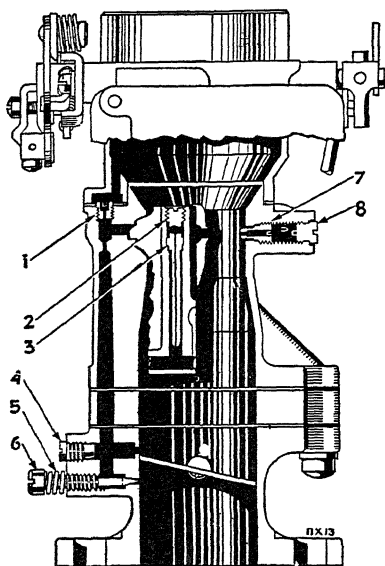

Fig. 91. Front Cross-Section of Plymouth-Chrysler Carburetor
Certain models of the Chrysler and DeSoto cars, as well as of the Plymouth, have used this same carburetor. It is of plain tube down-draft type, Figs. 91 and 92, with fixed jets which cover all speed ranges except the idle range which is controlled with an adjusting needle. The carburetor is equipped with an adjustable accelerating pump and a fast idle device for preventing stalling with a cold
**Idle Adjustment.** The idle adjusting screw 6, Fig. 91, controls the fuel mixture for closed throttle running. The idle adjustment operates on an emulsion of fuel and air and therefore turning the adjusting screw clockwise gives a leaner mixture and anti-clockwise a richer mixture.